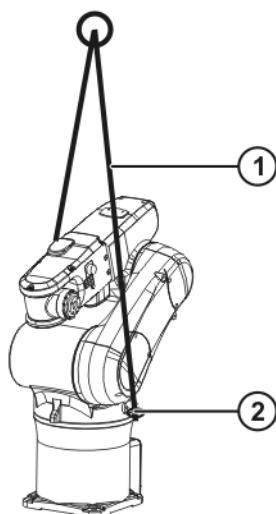

Fig. 13-2: Transporting the robot
16. Attach the lifting tackle (**>>>** Fig. 13-2).